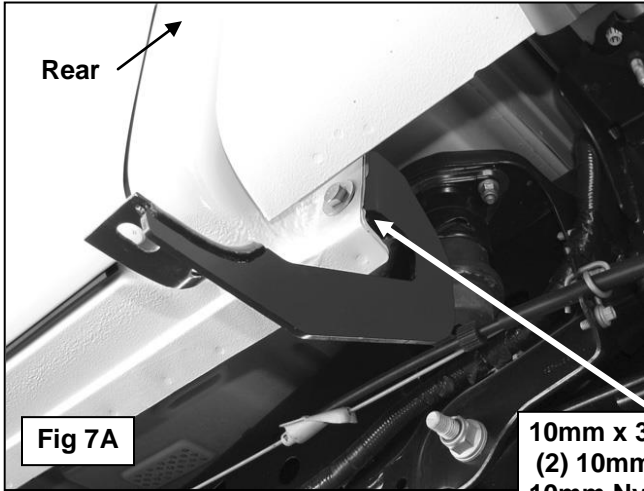
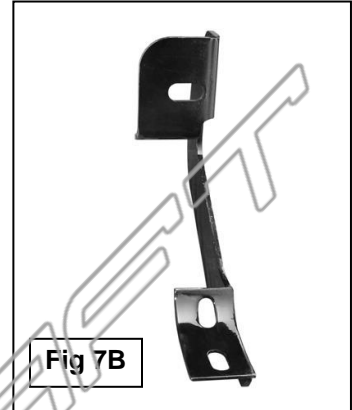

Fig 7A
Fig 7B
7. Next, move to the very end of the cab and locate the round hole in the bottom corner of the body panel, (**Figure 6**). Select the driver side Rear Bracket, (**Figure 7A**). Bolt the Rear Bracket to the mounting hole with (1) 10mm x 30mm Hex Bolt, (2) 10mm Flat Washers and (1) 10mm Nylon Lock Nut, (**Figures 7B & 8**). Do not tighten hardware at this time.